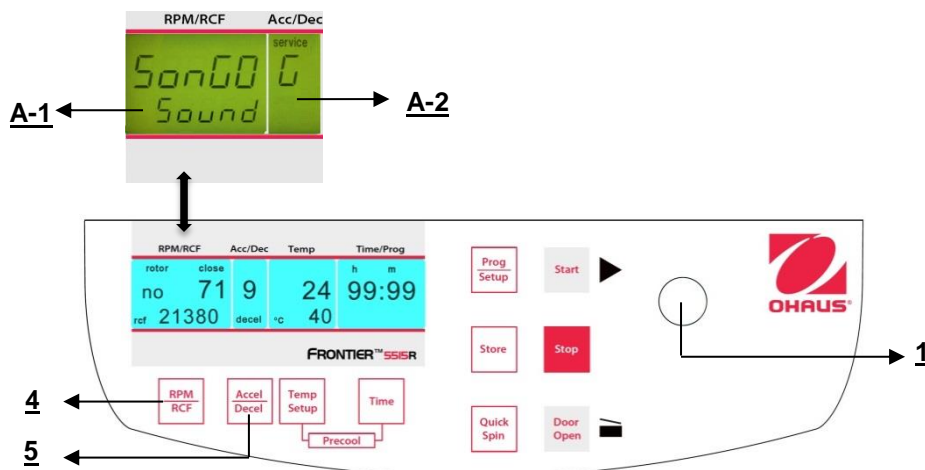

Figure. 35
Proceed as described under point 4.1.2 to enter this program mode and then press the key "**Accel/Decel**" (5). In the display "**Acc/Dec**" (A-2) the word "**Service**" flashes. Now select the letter "**G**" with the adjusting knob (1). As a result, in the display "**RPM | RCF**" (A-1), the word "**SonGo/Sound**" appears. After pressing the key "**RPM | RCF**" (4), you can select a song with the adjusting knob (1). (See figure 35).